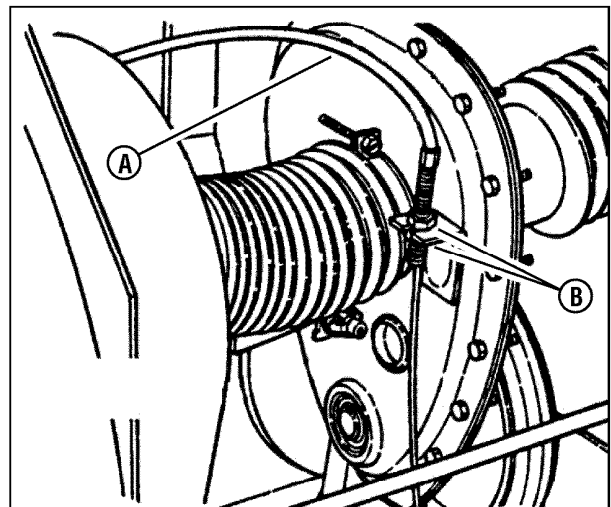

Figure 41: Brake cable adjusting nuts
6. If the measurement is not 3/4", loosen the two jam-nuts (**A, Figure 41**). Hold the clutch/brake cable (**B**) to the chain case bracket.